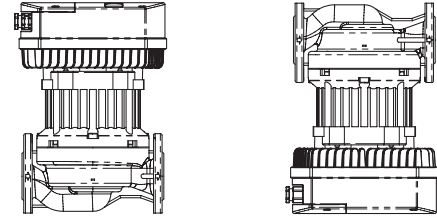

Figure 1:
Pumps are designed to be installed using standard ANSI class 125 flanges. It is recommended that the Viridian pumps be installed with at least 5 to 10 pipe diameters of straight pipe on the inlet and outlet of the pump. Use all nuts and bolts to attach companion flanges to the pump flanges. For pumps to operate with minimal vibration and noise, it should be installed with the axis in a horizontal position (see Figure 1).
1. If possible, change the orientation of the motor before installing pump in piping. With motor in a vertical position, remove the 4 bolts (⅝" or 8mm hex wrench required) and turn the motor to agree with desired orientation of pump (see Figure 1). If motor won't turn, insert a screwdriver between pump casing and motor flange and raise slightly. Try turning motor. Insert screwdriver on opposite side, raise slightly, and try turning the motor. Motor should now turn - now line up bolt holes when desired orientation is achieved.